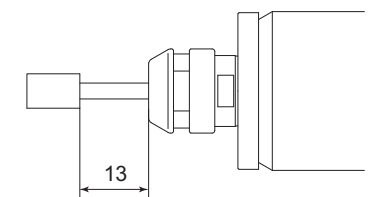

Fig. 14
- ① The proper surface speed for general grindstones is 10-30m/s.
- ② Do not exceed 13mm of overhang for mounted grindstones as shown in Fig. 14. If the overhang must exceed 13mm, reduce the speed in accordance with table 2.
- ③ Dress the grindstone prior to use.
- ④ Do not use tools with bent or broken shanks, cracks or excessive run-out.
- ⑤ For grinding, the maximum depth of cut should not exceed 0.01mm radially or axially. Reciprocate the tool several times after each pass to eliminate tool pressure.
- ⑥ Always operate tools within the allowable recommended speed of the tools. Use of a tool outside of the allowable speed of the tools could cause damage to the spindle and injury to the operator.
- ⑦ Keep the tool shank and collet chuck clean. If contaminants are left in the collet chuck or chuck nut, excessive run-out will cause damage to the tool and or spindle.
- ⑧ Do not strike or disassemble the spindle.
- ⑨ Please minimize the tool overhang amount to maintaining high accuracy. 13mm is the maximum amount of overhang to maintain high accuracy and safety.